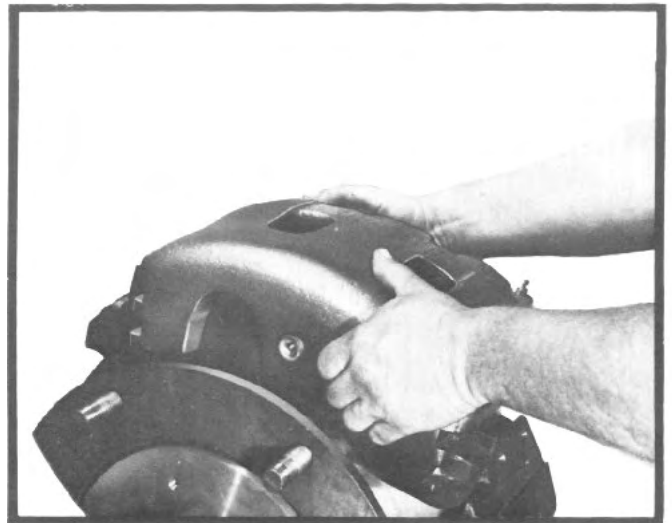

Fig. 22—Removing caliper.
(4) Lift the caliper off the hub and rotor. (Fig. 22)